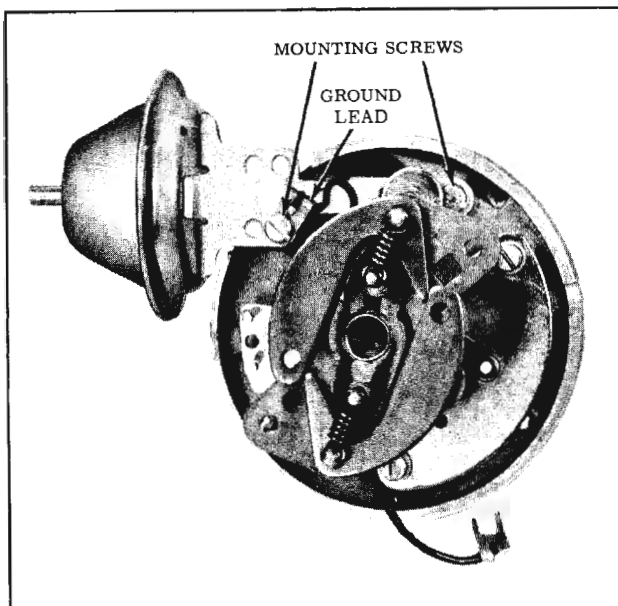

Fig. 14-125 Vacuum Advance Installation
2. Install mounting screws attaching the ground wire to the outer mounting screw as shown in Fig. 14-125.